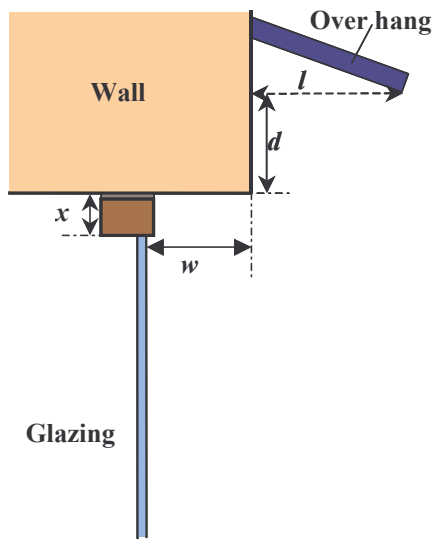

Figure 12. Definition of wall depth  $w$ , frame width  $x$ , distance to overhang  $d$ , and length of overhang  $l$ .
**Shades near the window** may be added stating **wall depth**, **distance to overhang** and **length of overhang**. Figure 12 shows the definitions of the wall depth,  $w$ , frame width,  $x$ , distance to overhang,  $d$ , and length of overhang,  $l$ . Shades from surrounding obstructions may be added by choosing a shade from the list of shades (for definition of shades, see section 0).